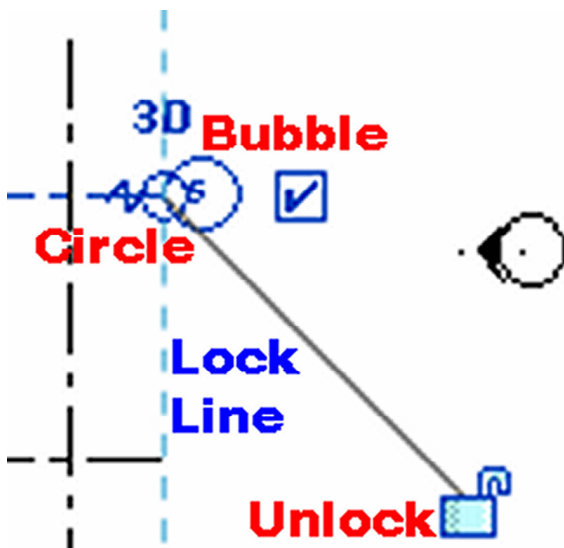

Fig. 1.20 – Grid Line End
2. Click on lock to unlock it as shown in Fig. 1.20.